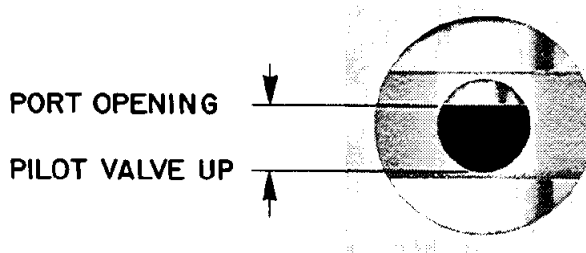

Figure 4-4. Centering Pilot Valve Plunger
- c. Holding the pilot valve plunger down against the flyweight toes, move the flyweights outward as far as they will go, and check the amount of port opening now appearing below the edge of the control land of the plunger (see Figure 4-4).